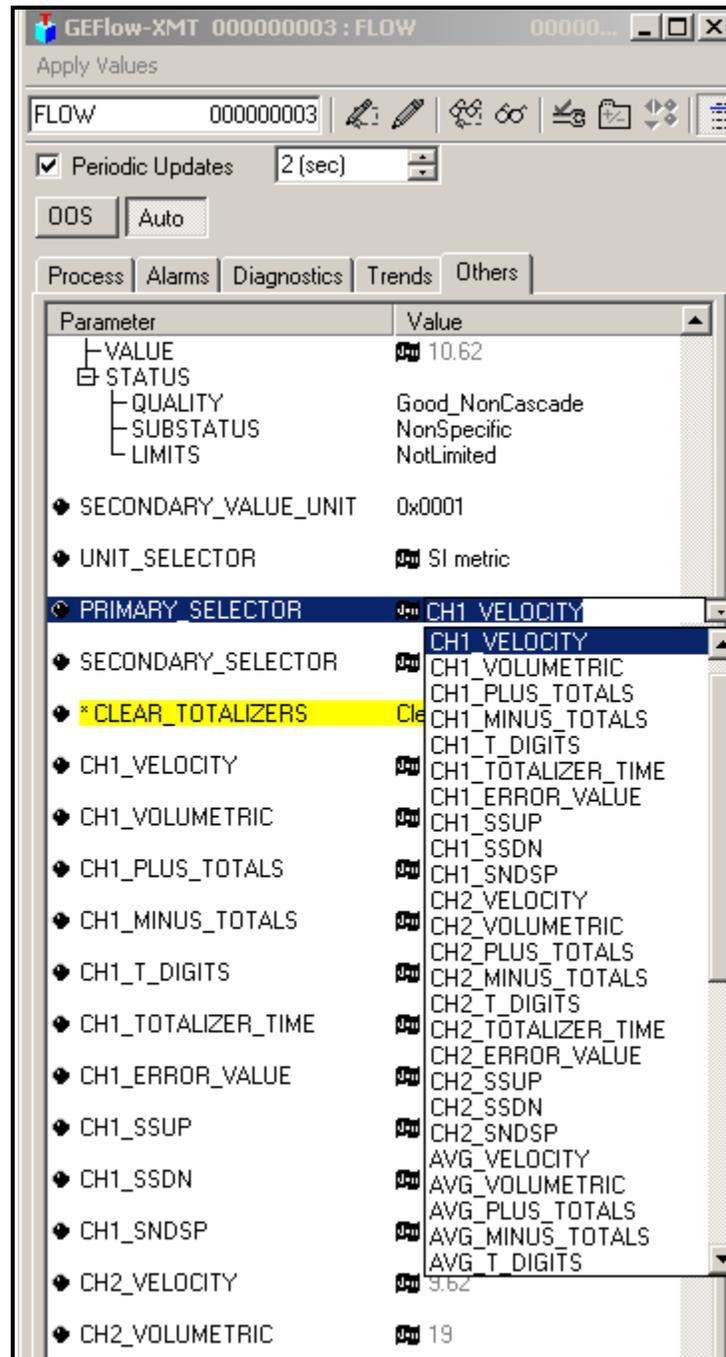

Figure 41: Primary Selector Drop Down List
2. Select the **Others** tab and open the drop down list for the PRIMARY\_SELECTOR and SECONDARY\_SELECTOR (refer to Figure 41 on page 125).
3. Choose the unit from the list (see Figure 41 on page 125).